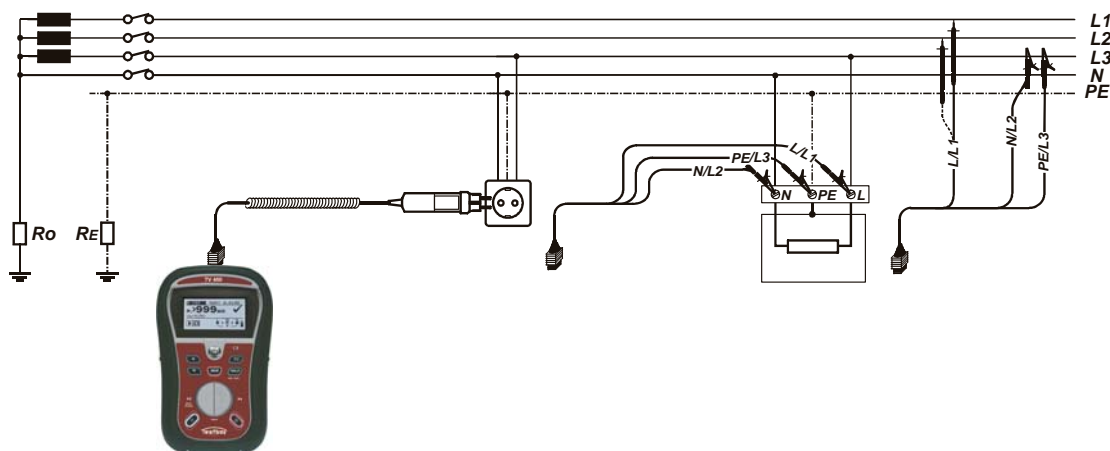

Figure 5.27: Phase-neutral or phase-phase line impedance measurement – connection of plug commander and 3-wire test lead
- ❑ **Connect** test leads to the to the item to be tested (see *figure 5.27*).